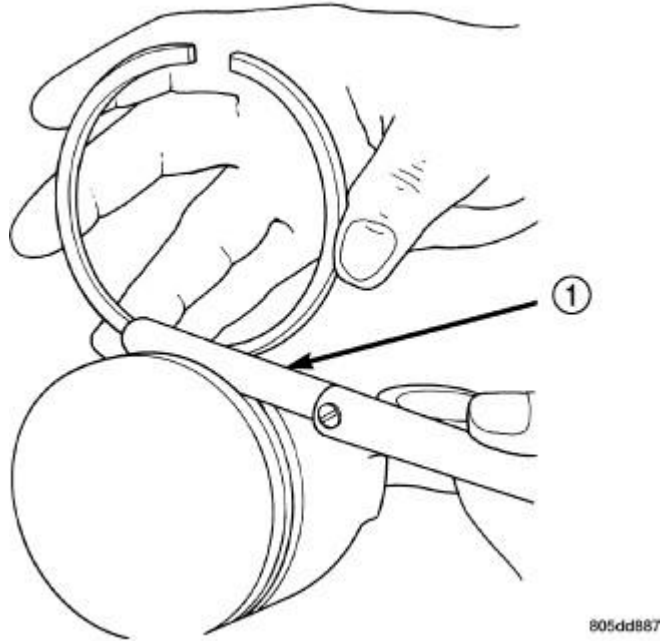

Fig. 159: Measuring Piston Ring Side Clearance
5. Measure the ring side clearance as shown in illustration make sure the feeler gauge (1) fits snugly between the ring land and the ring. See **Fig. 159**. Replace any ring not within specification.